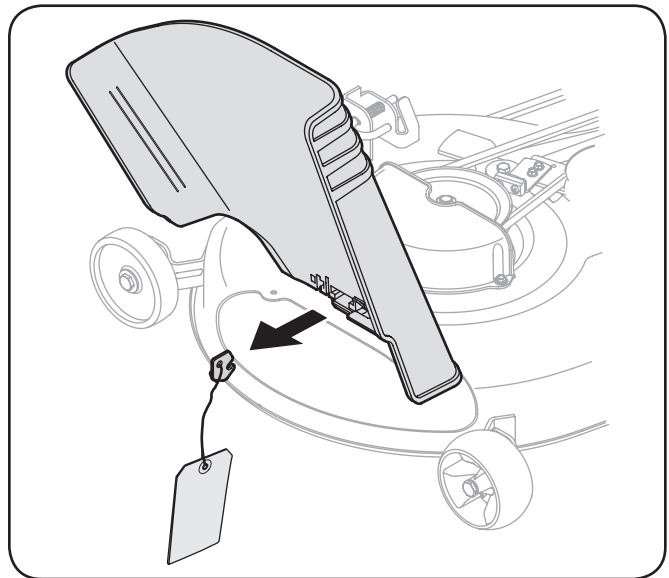

Figure 3-2
1. Locate the shipping brace, if present, and warning tag found on the right side of the cutting deck. See Fig. 3-2.